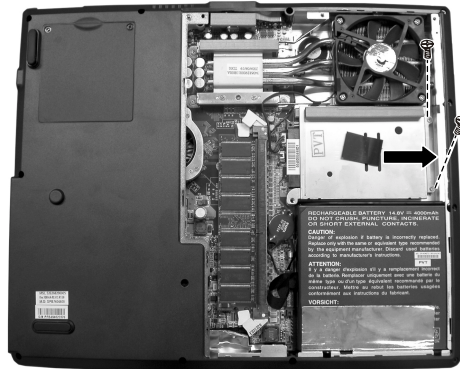

Figure 2-8 Remove HDD module
2. Remove two screws fastening the HDD module and slightly lift up HDD module. (Figure 2-8)